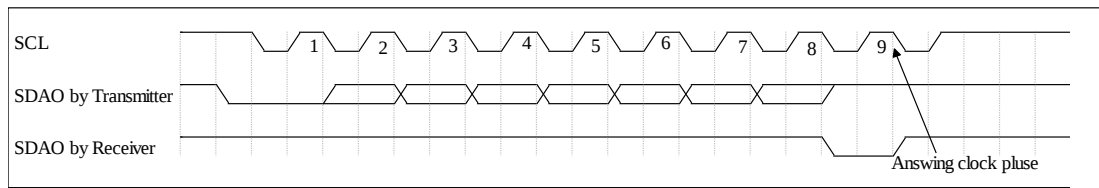
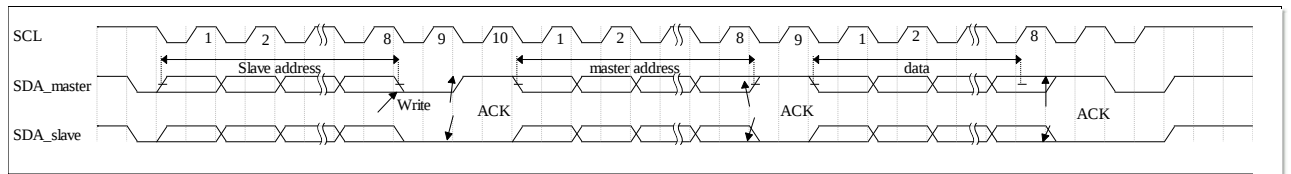
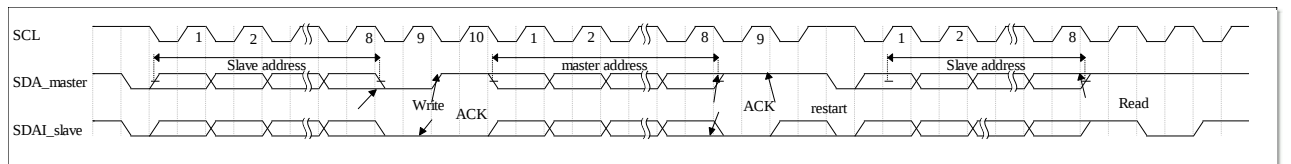
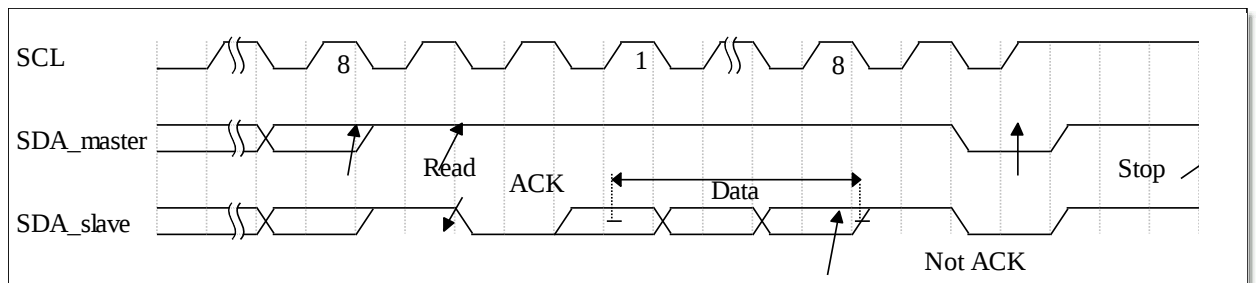

Figure12-2 Acknowledge timing diagram
Figure12-3 I2C write data timing
Figure12-4 I2C read data at a specified address
Figure12-5 I2C read data at a specified address (timing follows the previous figure)
- (1) Bus Non-Busy State (section A): Both the data line (SDA) and the clock line (SCL) remain high in this section.
- (2) Initiate data transfer (section B): When the clock line (SCL) is high, the falling edge of the data line (SDA) from high to low is considered to be a "start" signal. The other commands after the "start" signal are valid.
- (3) Stop data transmission (C section): When the clock line (SCL) is high, the rising edge of the data line (SDA) from low to high is considered a "stop" signal. With the "stop" signal, all external operations are terminated.
- (4) Data Valid (section D): After the "Start" signal, the data line is stable while the clock line (SCL) is high, and the state of the data line is the data to be transmitted. Changes to the data on the data line (SDA) must be accomplished while the clock line is low, with each data taking up one clock pulse. Each data transfer starts with a "start" signal and ends with a "stop" signal.
- (5) Acknowledge signal: After receiving a byte of data, it is usually necessary to send an acknowledge signal. After sending a byte of data, it is usually necessary to receive an acknowledge signal. The sender releases the SDA line during the acknowledge clock pulse, and the receiver pulls the SDA line low and holds it at 0 during the high pulse of SCL, as shown in Figure 12-2. The I2C read/write controller must have generated an additional clock pulse
Sender: After the start condition is satisfied, serial write slave address (I2C_CTRL[i2c_saddr]), write operation (I2C_CTRL[i2c_r_wn]=0), acknowledge, memory cell address(I2C_CTRL[i2c_maddr]), acknowledge, the data to be sent (I2C_CTRL[i2c_data]), acknowledge and the stop signal from the SDA line in sequence. Refer to Figure 12-3 I2C Write Data Timing Diagram.
(I2C_CTRL[i2c_saddr]), write operation (I2C_CTRL[i2c_r_wn]=0), acknowledge, memory cell address(I2C_CTRL[i2c_maddr]), acknowledge. Restart, slave address (I2C_CTRL[i2c_saddr]), read operation (I2C_CTRL[i2c_r_wn]=1), acknowledge. Receiver replies with read data I2C_DATA[i2c_data], non-acknowledge, and finally a stop signal. Refer to Figure 12-4 and Figure 12-5.
During data transfer, if there is no acknowledge or other errors are generated, the i2c_error flag will be set, and an interrupt will be generated if the i2c_error_en bit in the I2C_CTRL register is set. Figure 12-2 shows the I2C acknowledge timing diagram, and Figure 12-3 and Figure 12-4 show the I2C write data and read data at specified address timing diagrams respectively.